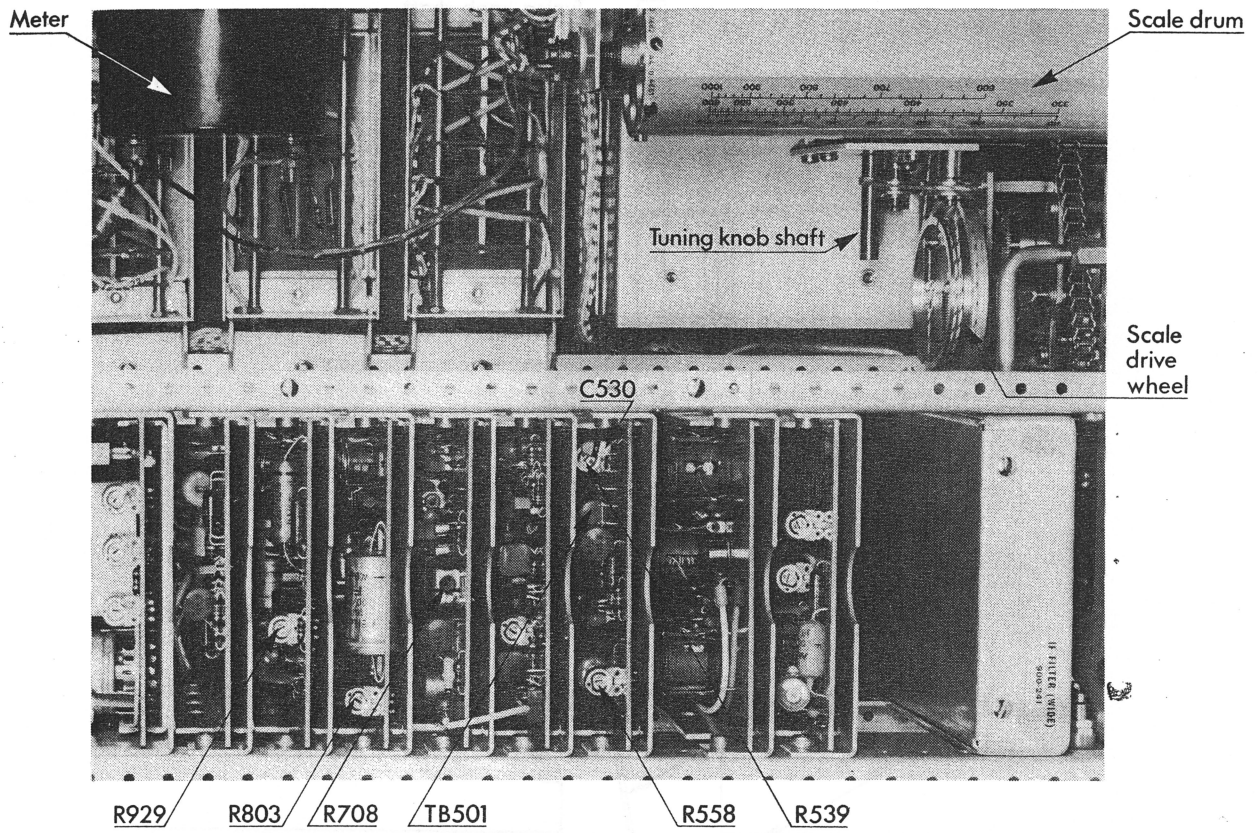

Fig. G6.
- 76) Set the FUNCTION switch to +AM and adjust the trimmer potentiometer R539, shown in Fig.G6, until the DC DVM indicates 93.9 mV. This value will be referred to as U1.
- 101) Using a trimming tool, adjust the potentiometer R708, shown in Fig.G6, until the DC DVM indicates 955 mV.
- 116) Using a trimming tool, adjust the potentiometer R803, shown in Fig.G6, until the DC DVM indicates $0\text{ V} \pm 10\text{ mV}$.
- 122) Using a trimming tool, adjust potentiometer R929, shown in Fig.G6, until the METER on the AFM2 indicates zero.